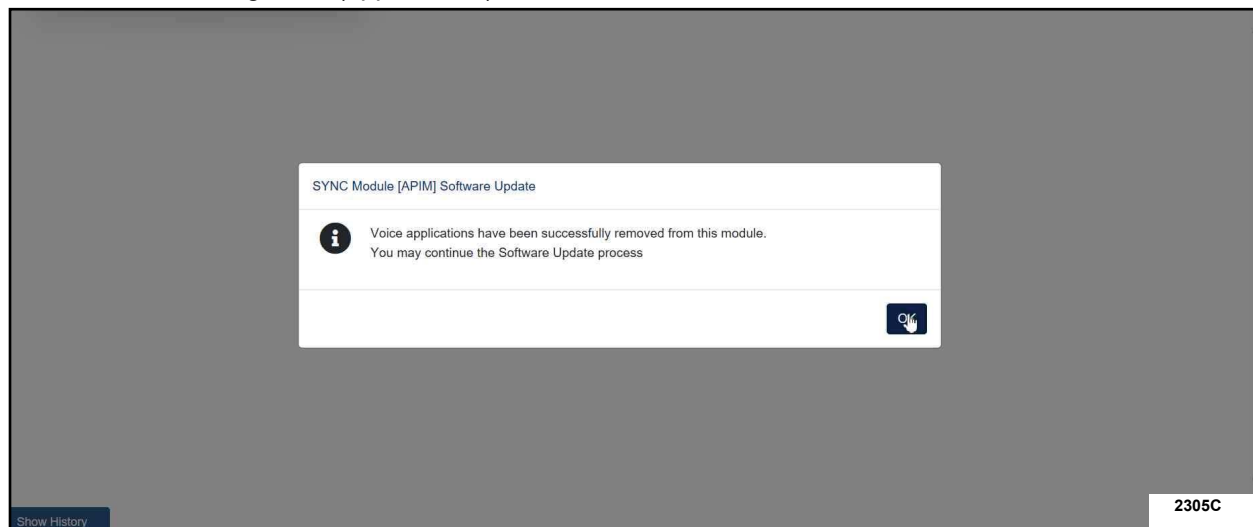

FIGURE 5
36. Continue to follow all on-screen instructions carefully until the voice application has been successfully removed. See Figure 5. (app deleted)